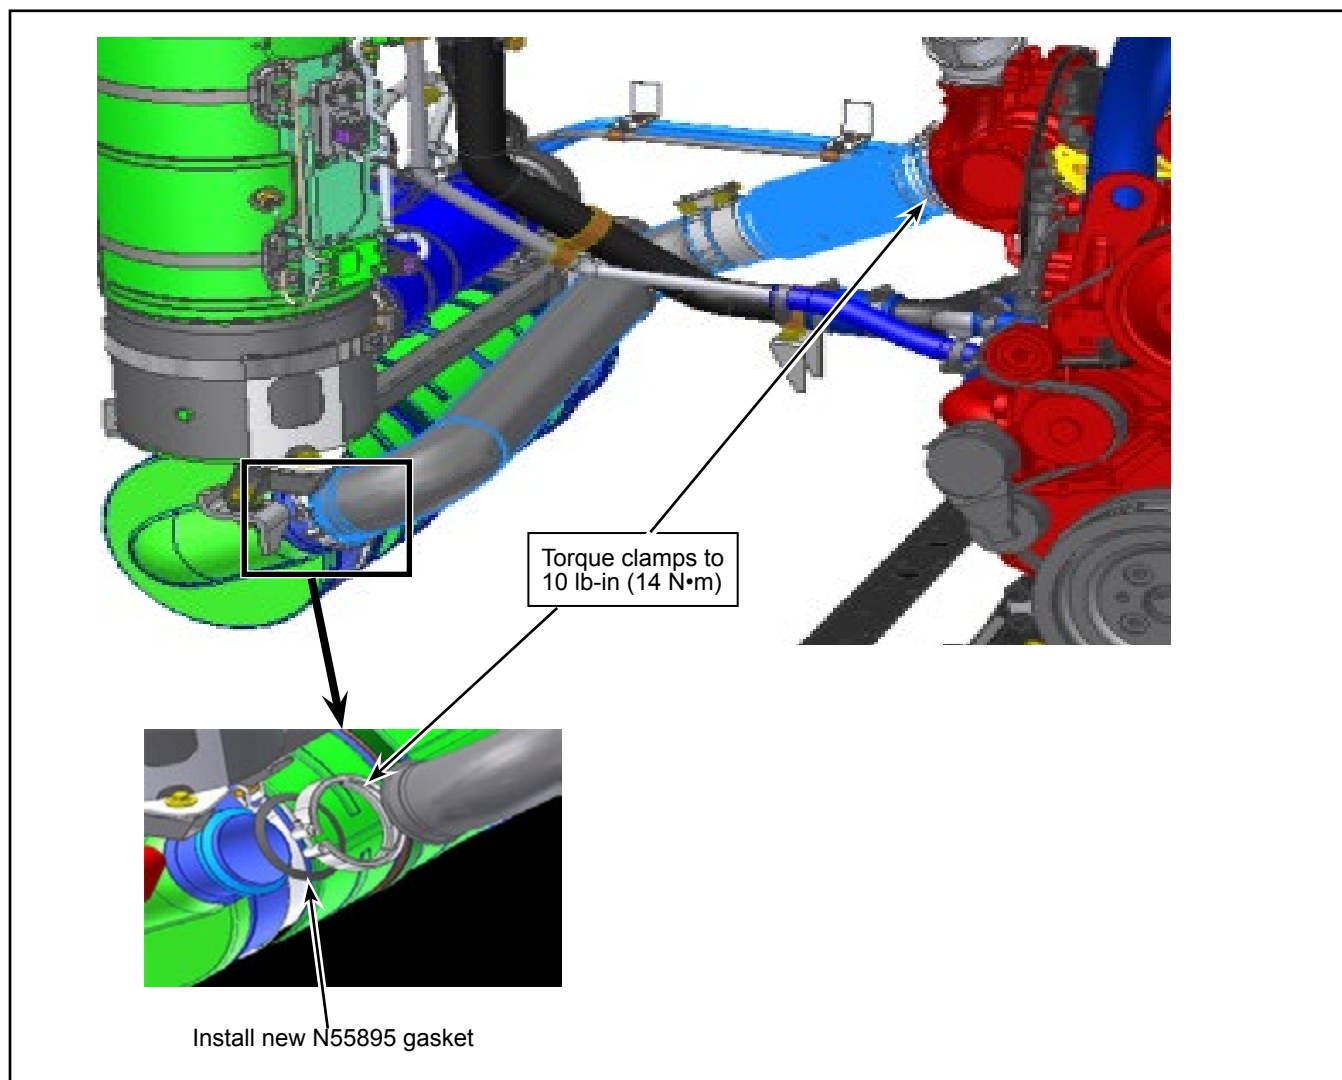

Figure 7 - Installation of Exhaust Pipe and Flexible Bellows Assembly
- 1.17. Install the exhaust pipe assembly using the retained hardware and a new N55895 gasket. See Figure 7 for torque value.